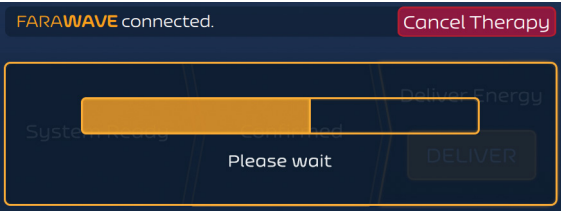

Figure 13. Therapy Screen — Asynchronous Mode — Between Deliveries Countdown State
8. The FARASTAR PFA Generator imposes a 10 second delay between deliveries. This is implemented as shown in Figure 13.